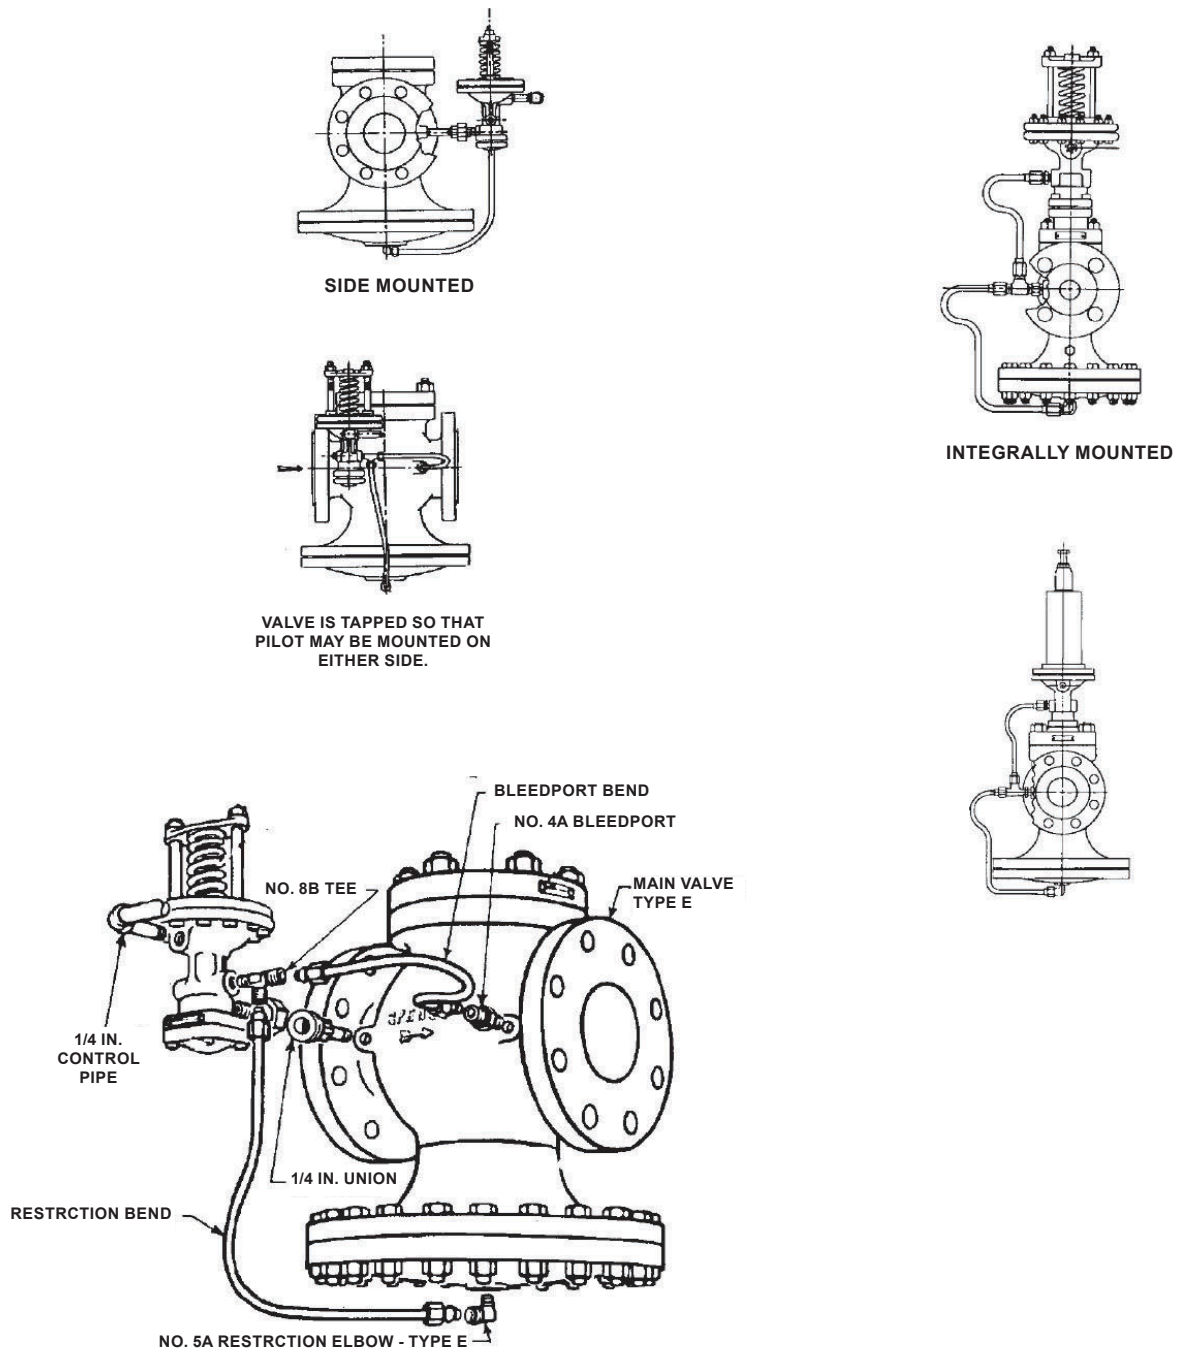

Figure 2. Typical Type ED Installation
5. Connect tubing bends as illustrated in Figure 2.